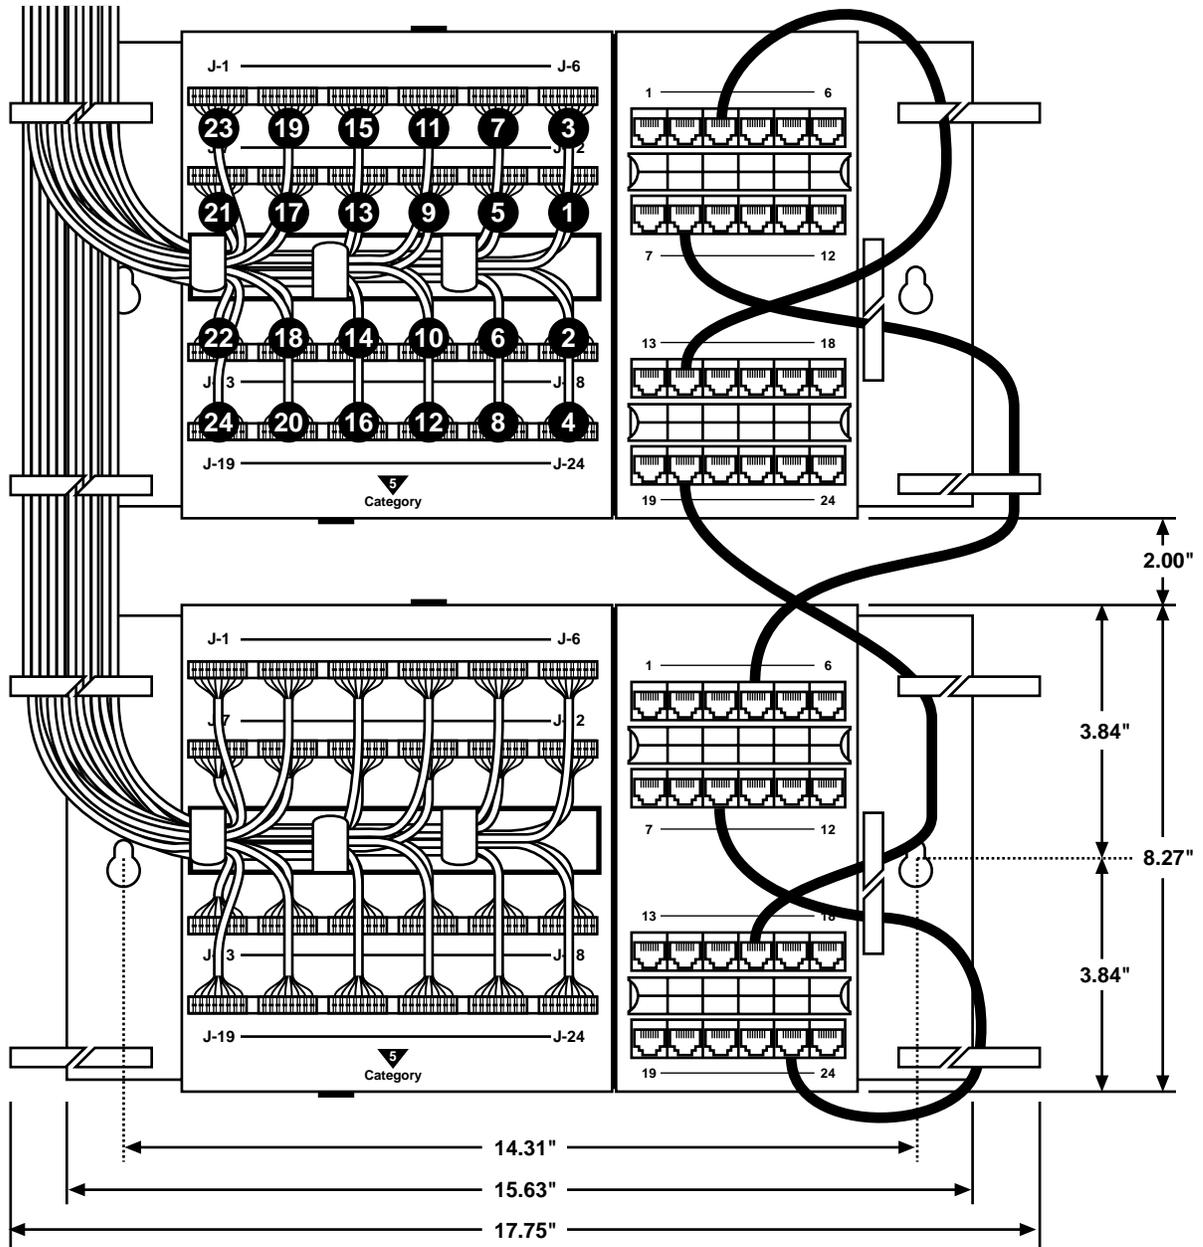

Figure 2. Suggested Cable Installation for the 24-Port Patch Panels.
There are countless ways to install cable in your patch panel. Figures 2 and 3 show (1) the suggested order to terminate the 110 clips (left side of the panel) and (2) the suggested routing of line cords between panels. This setup organizes the cables so the 110 clips and RJ-45 jacks are easily accessible, even with a full patch panel.